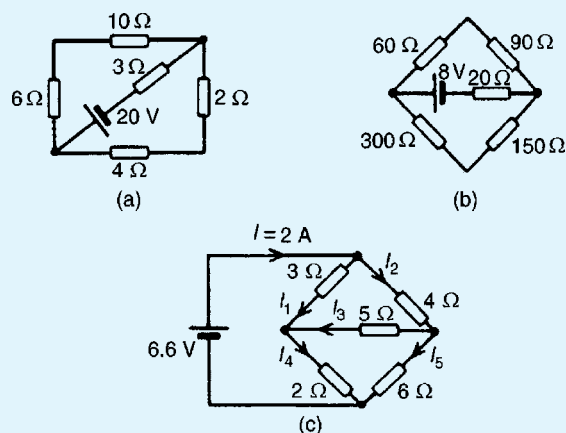

Figure 13.15
5. Find the current flowing in the $3\ \Omega$ resistor for the network shown in Fig. 13.15(a). Find also the p.d. across the $10\ \Omega$ and $2\ \Omega$ resistors.
6. For the network shown in Fig. 13.15(b) find: (a) the current in the battery, (b) the current in the $300\ \Omega$ resistor, (c) the current in the $90\ \Omega$ resistor, and (d) the power dissipated in the $150\ \Omega$ resistor.
7. For the bridge network shown in Fig. 13.15(c), find the currents I_1 to I_5